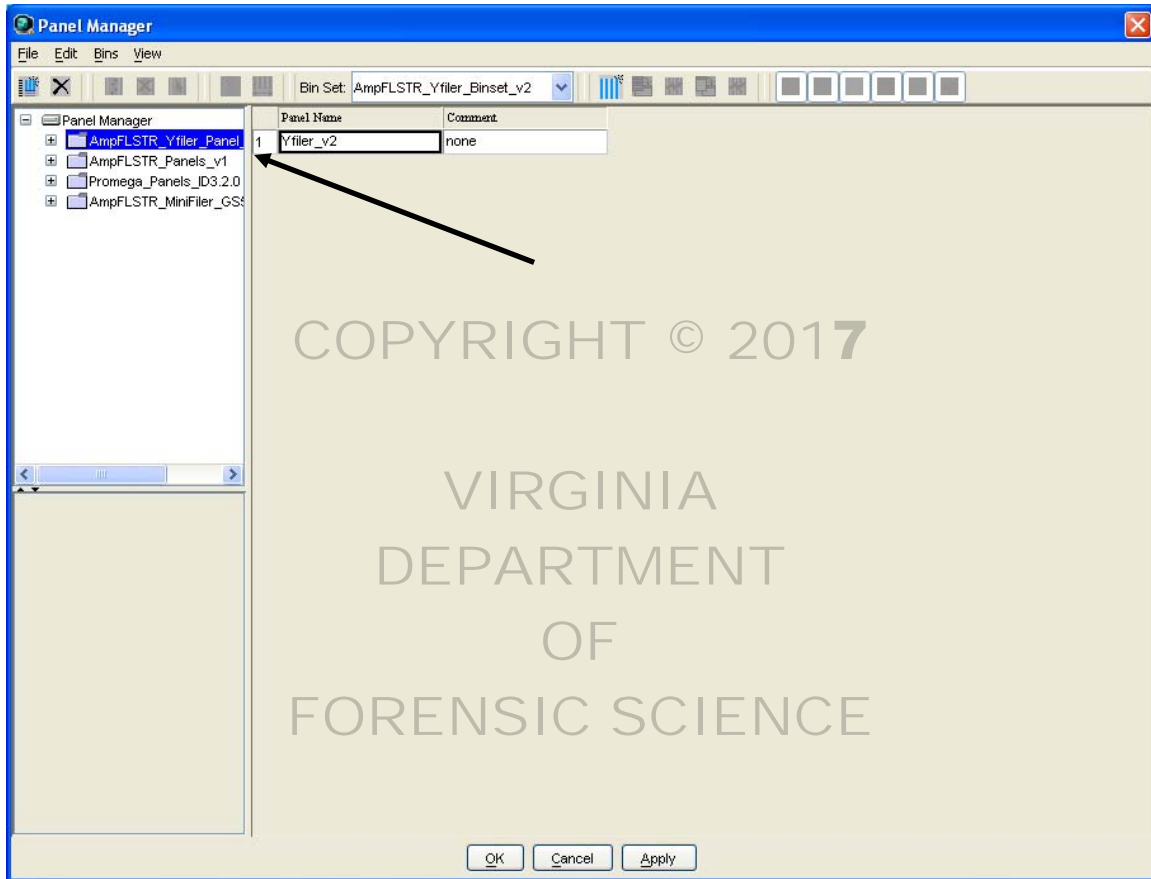

Figure 15. Panel Manager.
- 6.1 Panels and bins must be created for allele calling of PowerPlex 16 data. In the GeneMapper® ID software, navigate to “Tools” > “Panel Manager”. In the tree pane view on the left side of the dialog box (shown in Figure 15), choose “Panel Manager”.